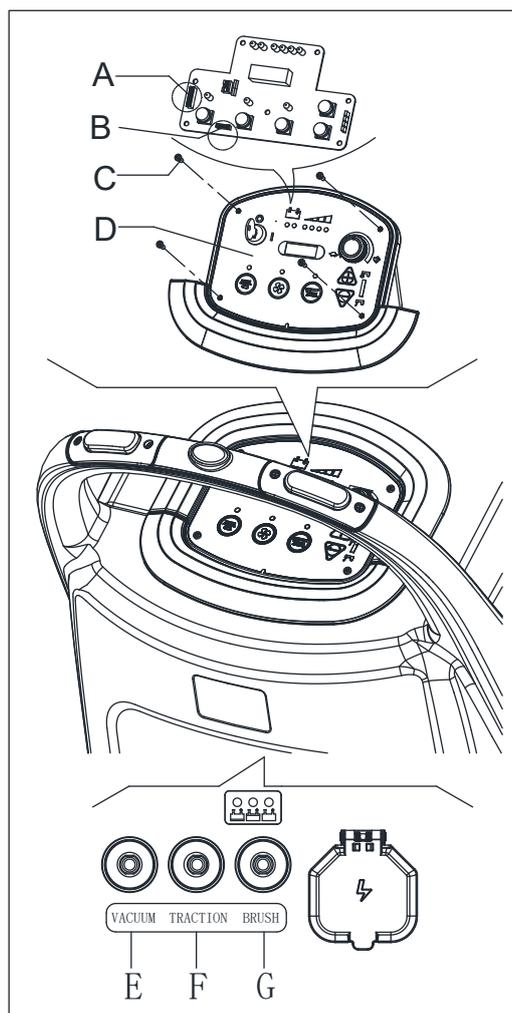

Figure 24
3. Remove the screws(C, Figure 24) on control panel (D), then turn over the PCB to find the fuse (A, B, Figure 24).